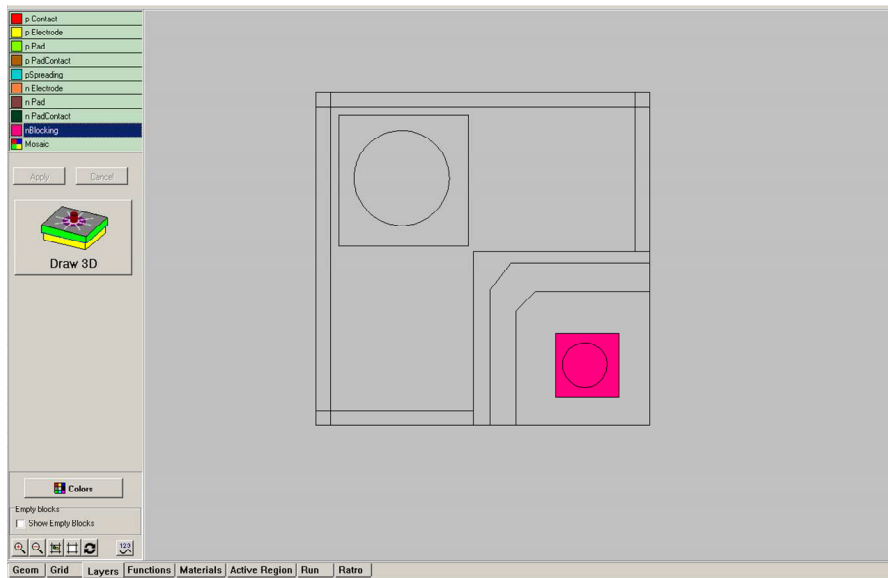

Fig. 25
***n-blocking.*** Area of the current blocking layer (insulating material) under p-electrode (see Fig. 25), if it is included into **Chip Configuration**. This layer should lie inside etched mesa, i.e. outside of the p-semiconductor layer.